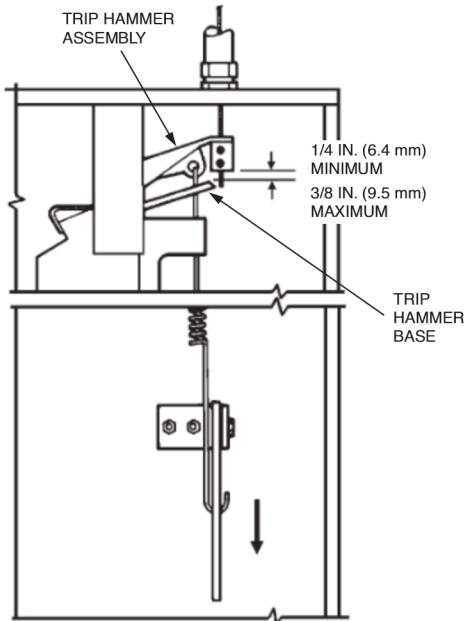

FIGURE 18
- 28. Inspect the base of the wire rope clamping device to make certain that there is a minimum of 1/4 in. (6.4 mm) and a maximum of 3/8 in. (9.5 mm) clearance between the base of the trip hammer assembly and the cable lever assembly. See Figure 18.